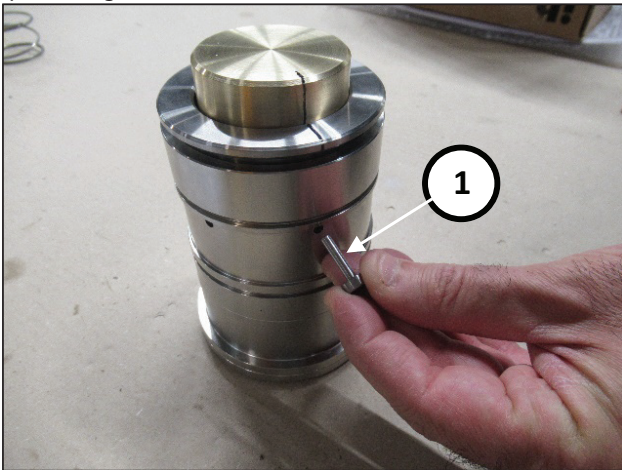

Fig. 184
Insert the pins of tool no. 27945400 into two opposite holes (pos. ①, Fig. 184).